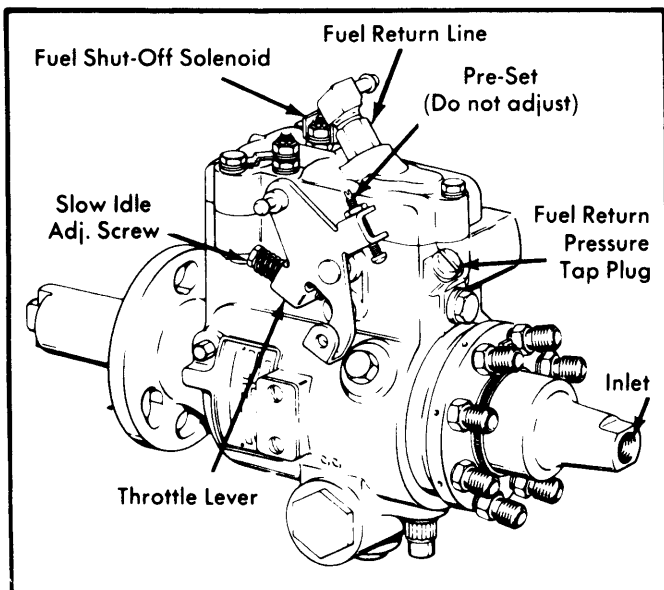

Fig. 4 Diesel Injection Pump Adjustment Locations
2) Adjust slow idle screw on injection pump to obtain RPM indicated on emission control label. See Fig. 4 for idle adjustment locations.